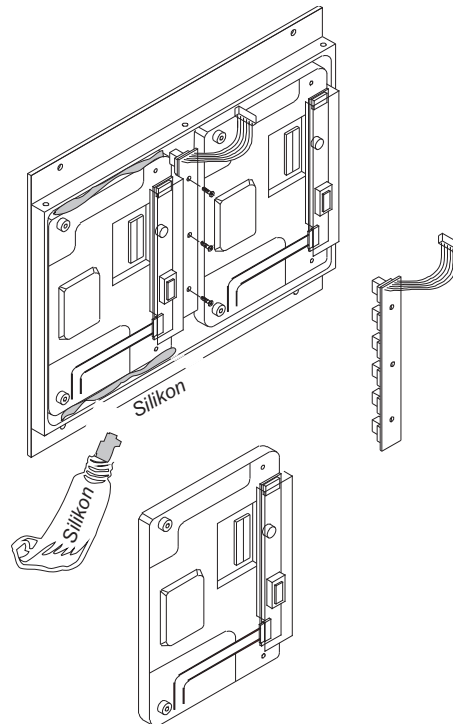

Fig. 8-19: Assembling the display unit
11. Place switch pcb inside the new display unit and fix them by the use of stored screws. (fig. 8-19)